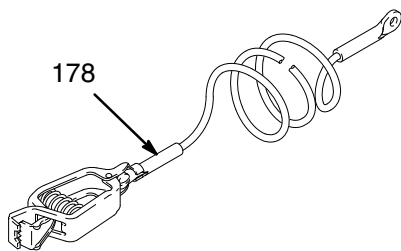

Fig. 1
1. *Sprayer:* make sure the grounding chain (148) contacts the ground while the unit is moving. See Fig. 7. For stationary spraying, connect a ground wire and clamp (178) to a true earth ground. See Fig. 1.
Ground the sprayer. See Fig. 1. Proper grounding is essential to maintaining an electrically safe system. Also read and follow **FIRE OR EXPLOSION HAZARD** on page 4.
- Indoor spraying:** Ground the sprayer whenever the sprayer is used indoors. The ground wire supplied with the sprayer is not long enough to allow much operator movement. See Fig. 1. Therefore, the operator must provide a longer ground wire or provide some other method of effective electrical grounding as specified by your local electrical code.